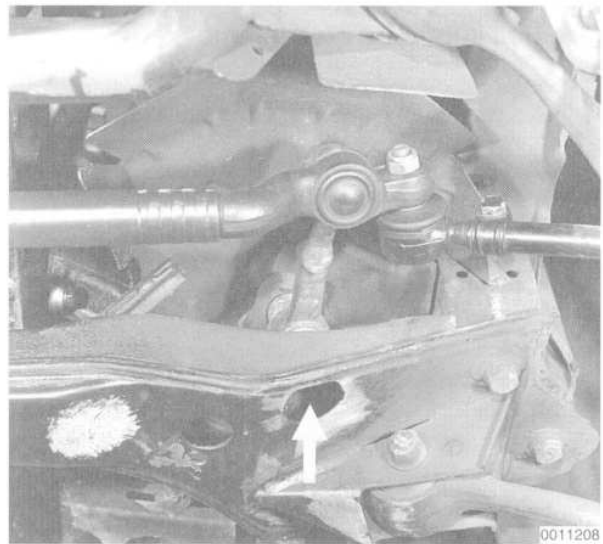

Fig. 18. Steering idler arm mounting bolt (arrow).
7. Unbolt the steering idler arm from the crossmember. See Fig. 18.